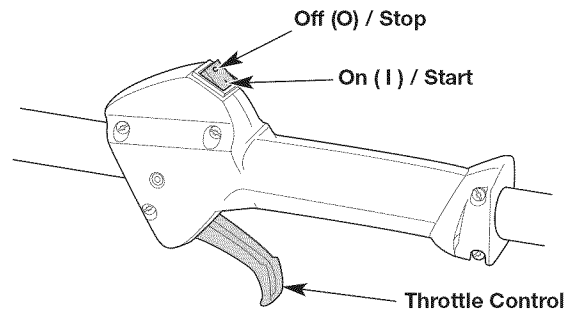
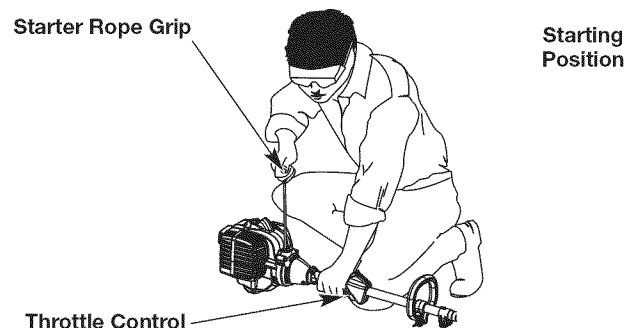

Fig. 6
Fig. 9
WARNING: Avoid accidentally starting the unit. To avoid serious injury, the operator and the unit must be in a stable position when pulling the starter rope (Fig. 9).
NOTE: There is no need to turn the unit on. The On/Off switch is in the ON (I) position at all times (Fig. 6).
5. Crouch in the starting position (Fig. 9).
6. **DO NOT** squeeze the throttle control (Fig. 6). Pull the starter rope with a controlled and steady motion until the unit starts (Fig. 9).
2. Press and hold the On/Off switch in the OFF (O) position until the engine comes to a complete stop (Fig. 6).
6. **DO NOT** squeeze the throttle control (Fig. 6). Insert the Speed Start™ accessory into the Speed Start™ port (Fig. 20). Refer to the *Operation* section of the Speed Start™ accessory operator's manual.